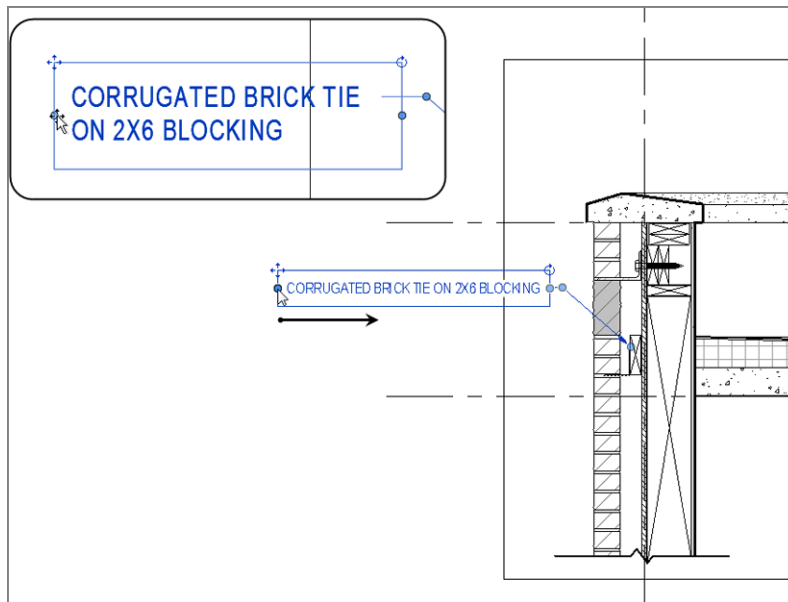

FIGURE 12.53: Wrapping the text
12. Pick the grip to the left, and drag the box to resemble Figure 12.53. The text wraps.